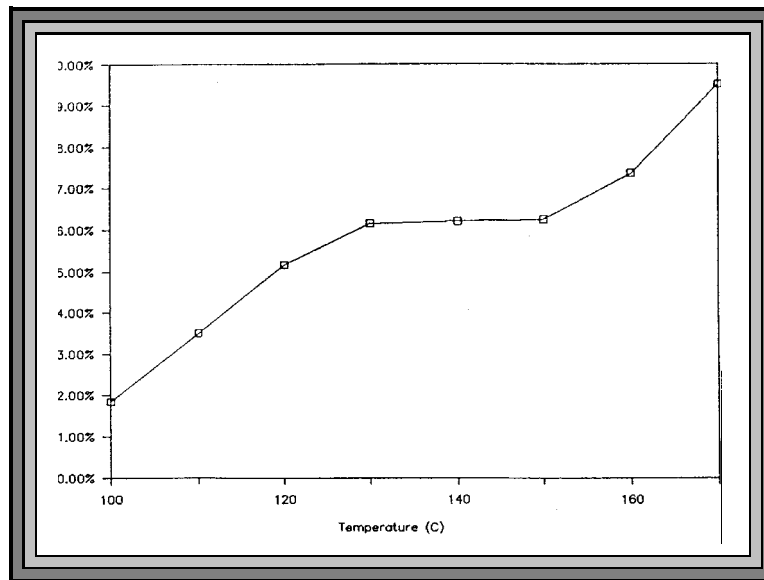

Figure 49 MOISTURE VS. TEMPERATURE CURVE
- 13.2.2 The starting temperature is usually the standard or reference method temperature for that particular sample. Results for each increasing temperature will usually rise to a plateau where several increasing temperatures do not change the results significantly. Beyond this plateau results rise dramatically, (**Figure 49**). Examination of the tested sample shows burning or charring.